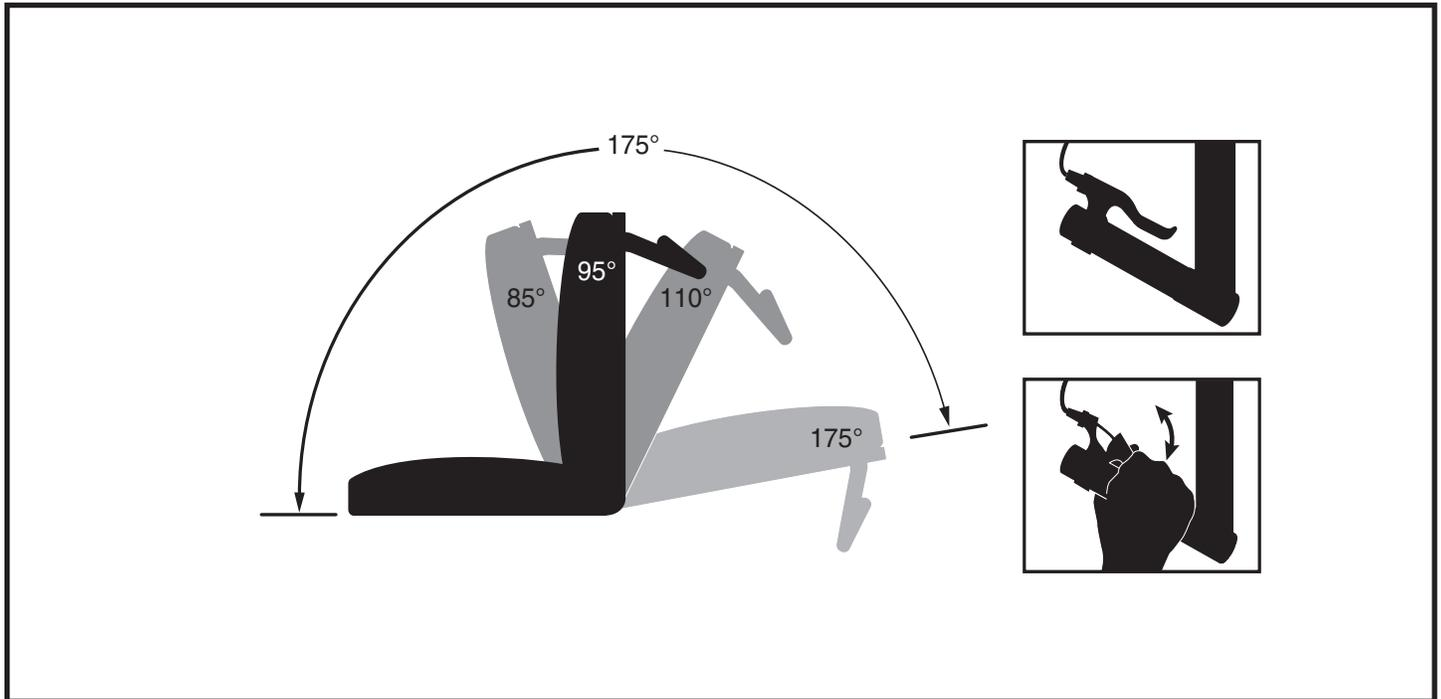

Figure 22. Minimum and Maximum Recline Angles
If your TRU-Balance® 3 Power Positioning System is equipped with the Manual Recline Option, you can adjust the seatback to angles ranging from the minimum recline position (85° from the seat base) to the maximum recline position (175° from the seat base). **See figure 22.** When the seat is reclined past 110°, the chair will be in full inhibit. Returning the seat to an angle of less than 110° will restore power to the motors
2. Squeeze the recline release handle, and position the seatback to the desired angle. **See figure 22.**